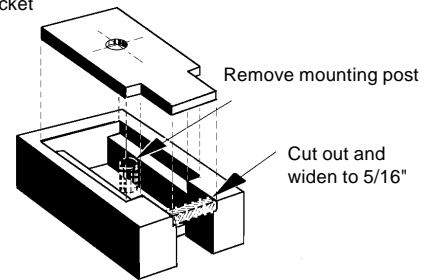

Fig.1
2. Cut out cross bar at front of coupler pocket and mounting post and widen pocket opening to fit centered 20-Series Draft Gear Box (5/16"), as shown in Fig.1.